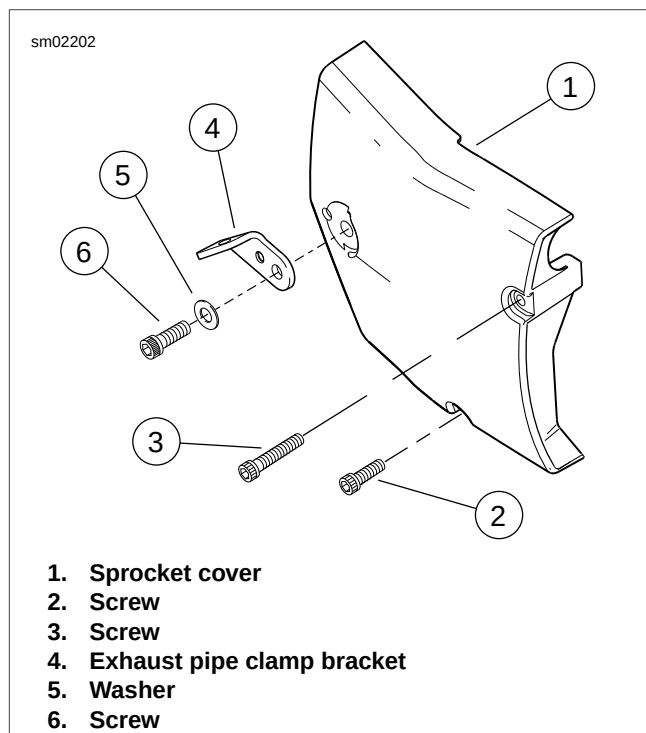

Figure 4-70. Sprocket Cover
1. See Figure 4-70. Remove screw (6), washer (5) and exhaust pipe clamp bracket (4). Remove two screws (2, 3). Remove sprocket cover (1).
- See Figure 4-70. Install sprocket cover (1). Secure with two screws (2, 3). Note that long screw goes in top hole, short screw in bottom hole. Do not tighten screws at this time.
- Install exhaust pipe clamp bracket (4), washer (5) and screw (6). Tighten to 30-33 ft-lbs (40.7-44.8 Nm). Now tighten screws (2, 3) to 80-120 **in-lbs** (9.0-13.6 Nm).